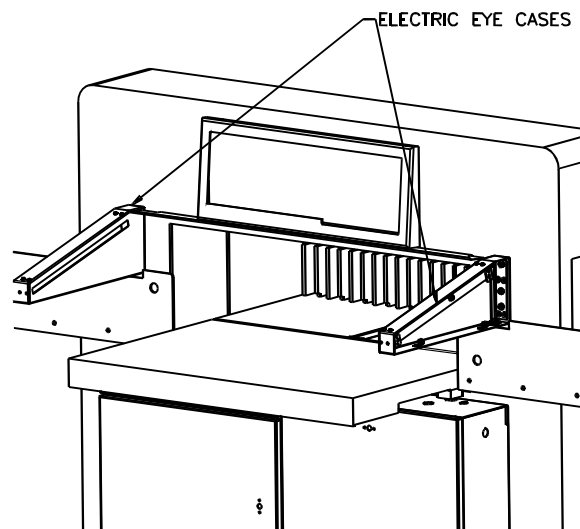

Figure 9
15. Open each electric eye end-cover. Mount the electric eyes to the machine as shown in Figure 9. The end-covers are oriented toward the outside of the machine. Connect each electric eye, leaving the connectors inside the electric eye cases. Replace the end-covers.